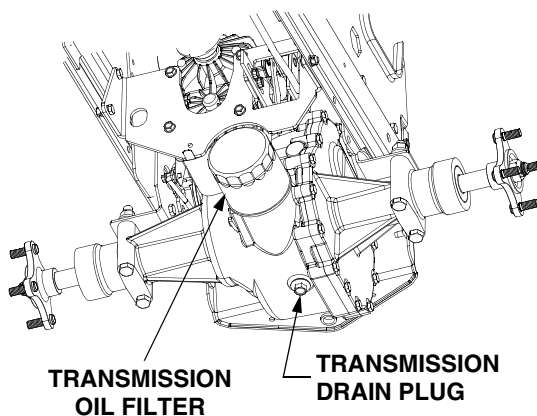

Figure 22
2. Clean the area around the transmission drain plug to prevent debris from entering the transmission case. Remove the drain plug and allow the transmission oil to drain into a clean container having a capacity of more than 6 quarts. Reinstall the drain plug (See Figure 22).
3. Clean around the base of the transmission oil filter and remove the filter by turning it counterclockwise (Refer to Figure 22).